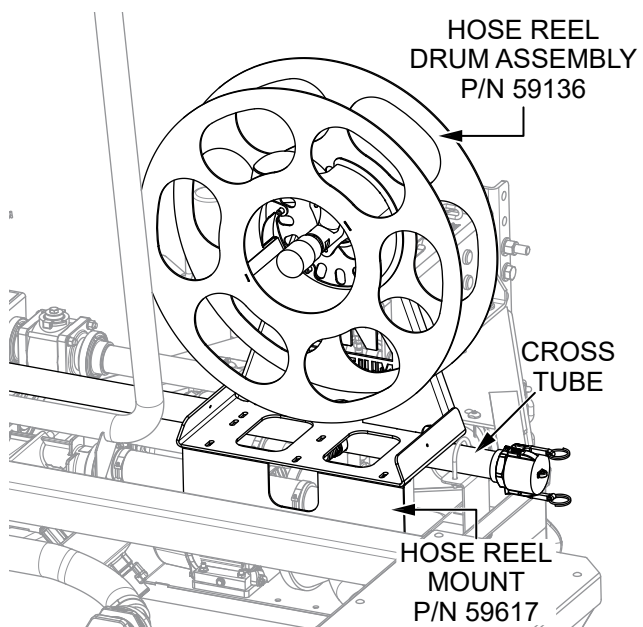

Figure 5. Hose Reel Drum Assembly Placement
4. Place the **hose reel drum assembly** (P/N 59136) onto the **hose reel mount** (P/N 59617) and **cross tube** as shown in Figure 5.